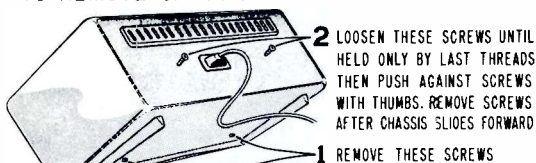

Figure 1. Rear View of Cabinet Showing Chassis Mounting Screws.
1. Disconnect line cord and remove the two screws located near the front on cabinet bottom. See figure 1.